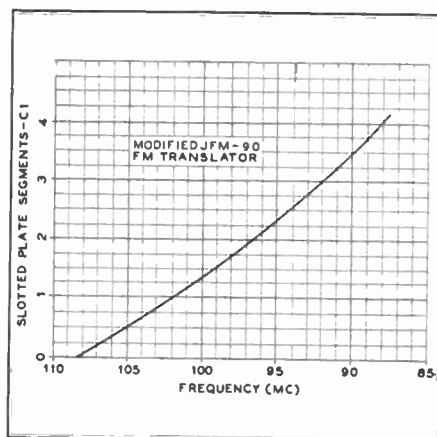

FIG. 4. CALIBRATION FOR 88 TO 108 MC.
**Tests** ★ Connect a 200-microampere meter in series with terminal post No. 2 and ground, with the positive side of the meter to ground. If a signal generator or an oscillator capable of furnishing a signal in the 88- to 108-mc. range is not available, the antenna can be connected to the receiver to establish a source of signal energy. The antenna should consist of two pieces of copper tubing or similar material, each 27 ins. long, facing broadside to the FM station, and connected to the receiver by a 70-ohm coaxial line. In New York City, WABC-FM comes in at 96.9 mc., an appropriate point on the gang condenser, i.e., at the point where the first and second segments of the condenser are completely meshed. That makes WABC-FM useful for the initial tests. For locations where other stations must be used, refer to Fig. 4 to determine the proper position of gang condenser C1.
The above tests were based on the use of broadcasting stations as signal sources, and does not permit precise alignment over the entire range of 88 to 108 mc. For optimum performance over the entire range, a signal generator is much more satisfactory. If such a source is available, the initial adjustment should be made at 106 mc. by setting the tuning condenser in accordance with Fig. 4. With the signal generator set at 106 mc., adjust C2, C3